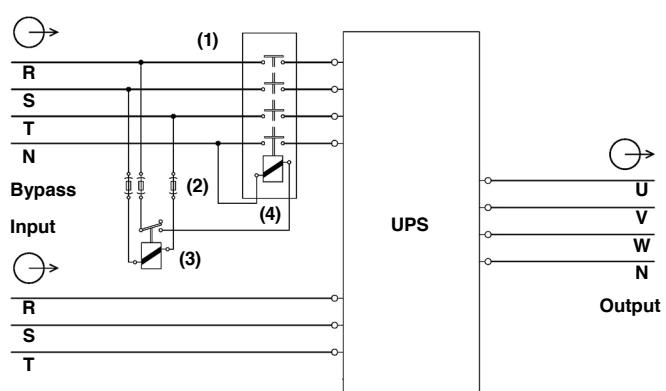

Fig. 16. *Backfeed protection connection in installations with separate bypass line (X-TRA) and power ≤ 300 kVA.*
- X-TRA equipments (separate bypass line) and power ≤ 300 kVA, in accordance with safety standard EN-IEC 62040-1, installation has to be provided with a «Backfeed protection» system, as for example a contactor, which will prevent the appearance of voltage or dangerous energy in the bypass line during a mains fault (see figure 16). For powers >300 kVA the UPS has the "Backfeed protection" as standard.